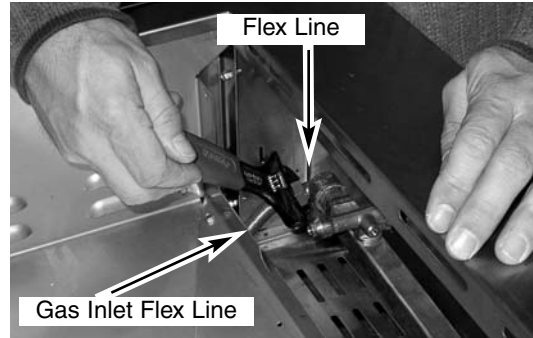

Fig 9
10. Disconnect the right side flexline from the manifold using the adjustable wrench. This will free up the right side of the manifold (Fig. 9).
21. Reattach the flexline on the right of the grill to the new manifold using the adjustable wrench (Fig. 9).